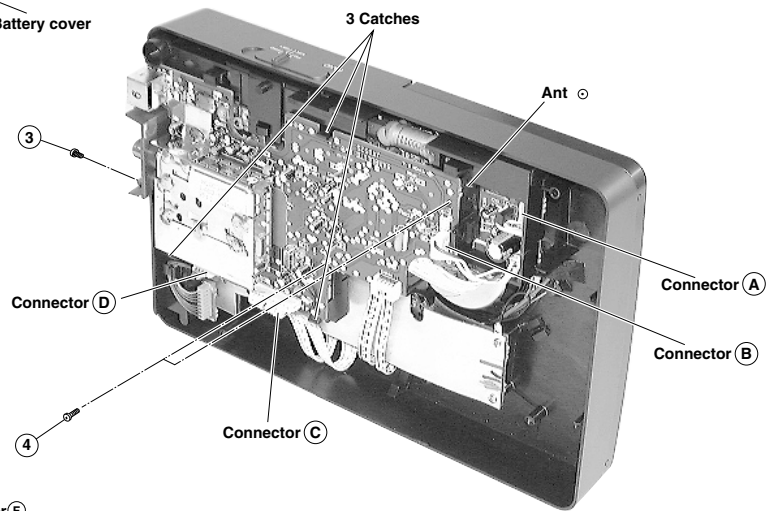

Fig. 2
### **2. Removal of SATELLITE P.W.B. Board (Fig. 2)**
4. Feed in a weak signal to IC201 (Note 3) from the genescope. Use the T201 core to form the S-curve shown in the Fig. 2. Adjust the symmetry of A and B about point C for linearity.